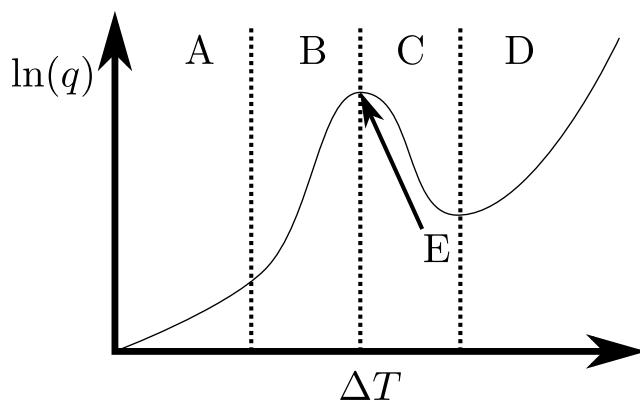

Figure 26: A typical boiling heat flux versus driving temperature difference curve.
- 6) Which region of the boiling curve in Fig. 26 is the nucleate boiling regime? [2 marks]
- 7) Which region of the boiling curve in Fig. 26 is the operation of the boiler unstable? [2 marks]